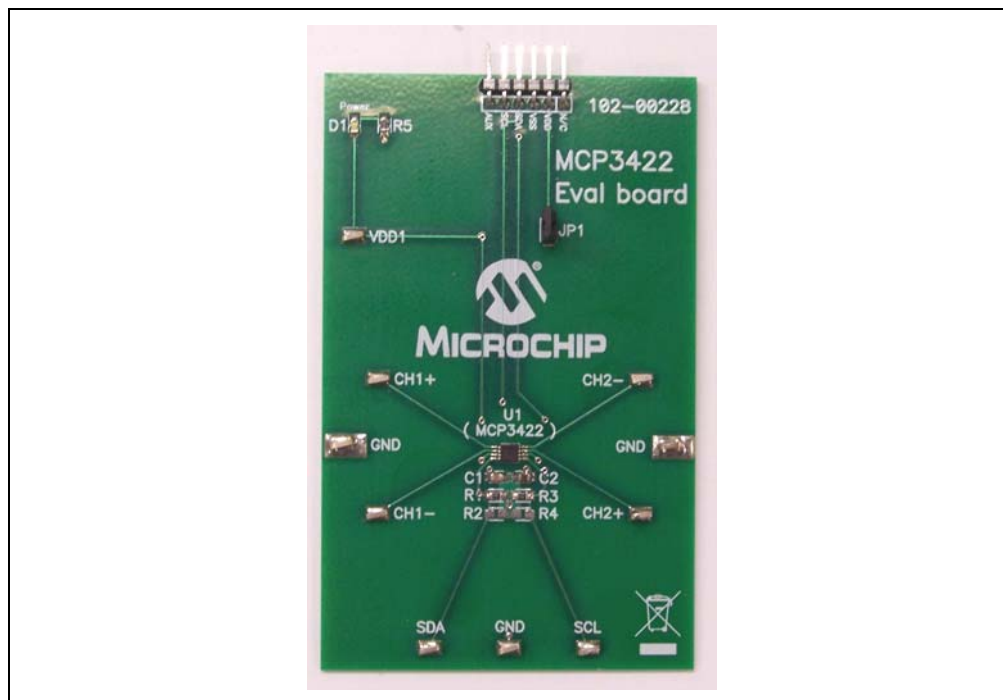
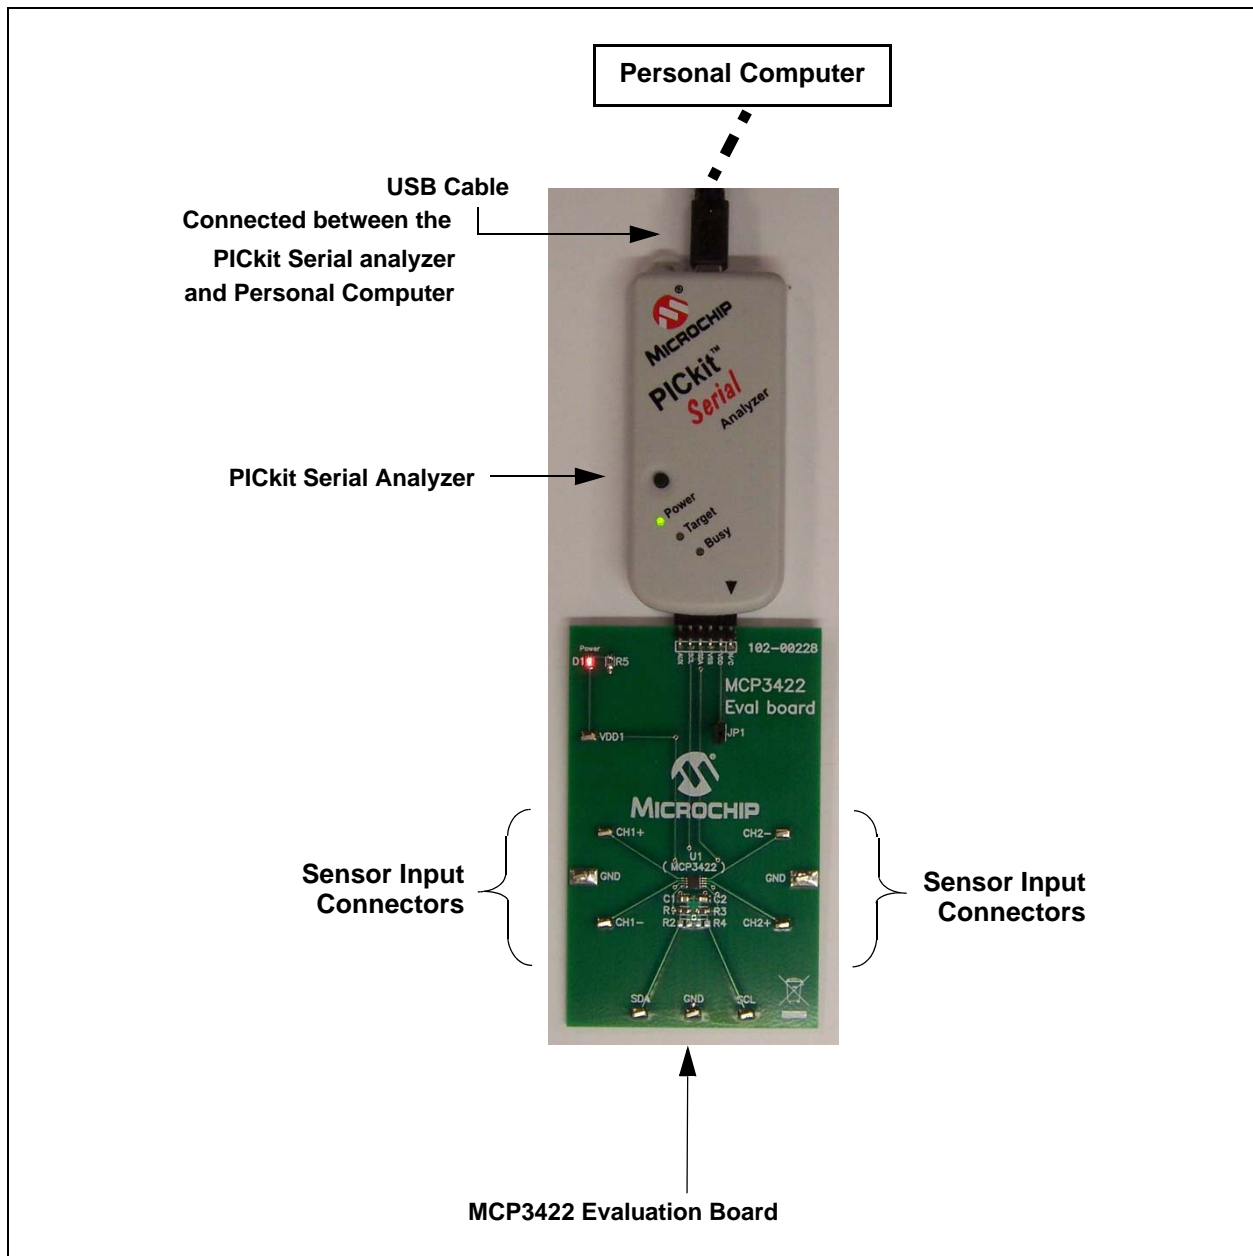

FIGURE 1-1: Front View of the MCP3422 Evaluation Board.
FIGURE 1-2: MCP3422 Evaluation Board with the PICkit Serial Analyzer.
Figure 1-1 shows the MCP3422 Evaluation Board and Figure 1-2 shows the MCP3422 Evaluation Board and PICKit Serial Analyzer.
1. Connect the MCP3422 Evaluation Board's 6-pin socket to the PICKit Serial Analyzer, as shown in Figure 1-2.